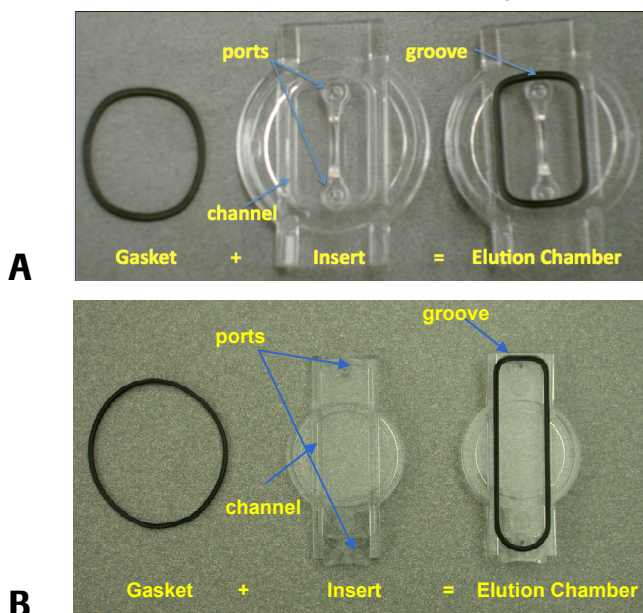

Figure 10: Assembly of an Elution Chamber ES1 (A) and an Elution Chamber EL1 (B) Using the Elution System Gasket and the Elution Insert
2. While holding down the center portion of the Elution Insert, work the Elution System Gasket into one side of the rounded part of the channel (Figure 10).
3. Fit the Elution System Gasket into the remaining rounded part of the channel while still holding down the center portion of the Elution Insert (Figure 10).
4. Gently press the Elution System Gasket down into the channel to ensure proper, uniform Elution Chamber assembly (Figure 10).
Important - for 2.1M arrays only: The Elution Chamber EL1 has a significantly larger chamber area and Gasket than those in the Elution Chamber ES1 pictured in Figure 10.